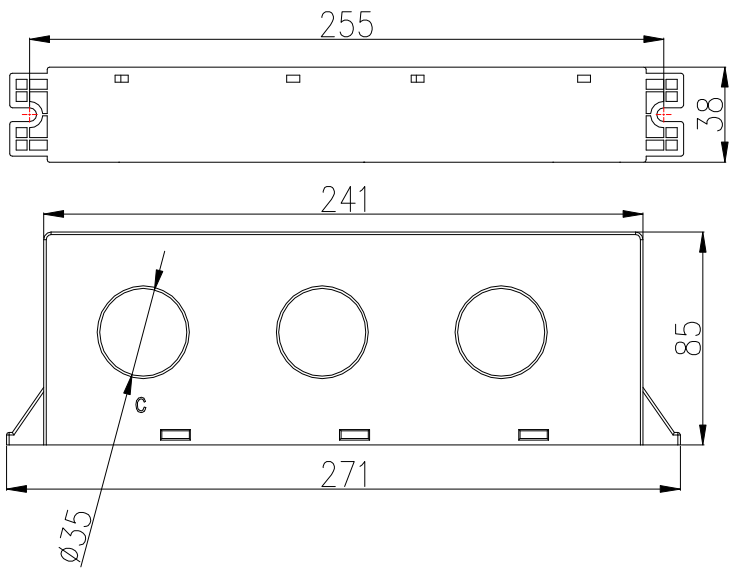

Figure 6 The external dimensions of split current transformer(250A and 800Acurrent specification)
5.3.2 The external dimensions of split current transformer(250A and 800Acurrent specification)are shown in figure 6(Unit:mm):